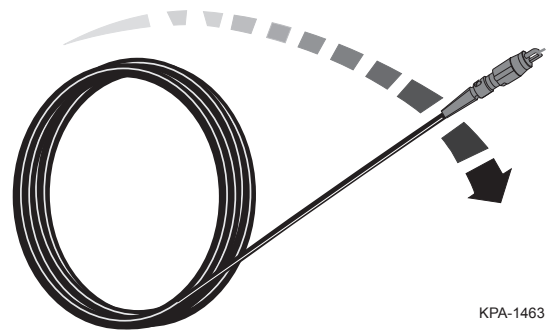

Figure 13
WARNING: Unrestrained cable ends may cause injury to your eyes or body and damage the cable, fitting, or fibers if suddenly released from a coil (Figure 13). Wear eye protection and use extreme care when handling a coiled cable assembly which uses flat-drop cable - gently release the energy stored in the cable coil to avoid possible personal injury or damage to the cable or fitting components.
Step 1: Locate the FlexNAP distribution cable (Figure 13). On aerial applications, use scissors to carefully cut the cable ties which secure the tether to the cable.